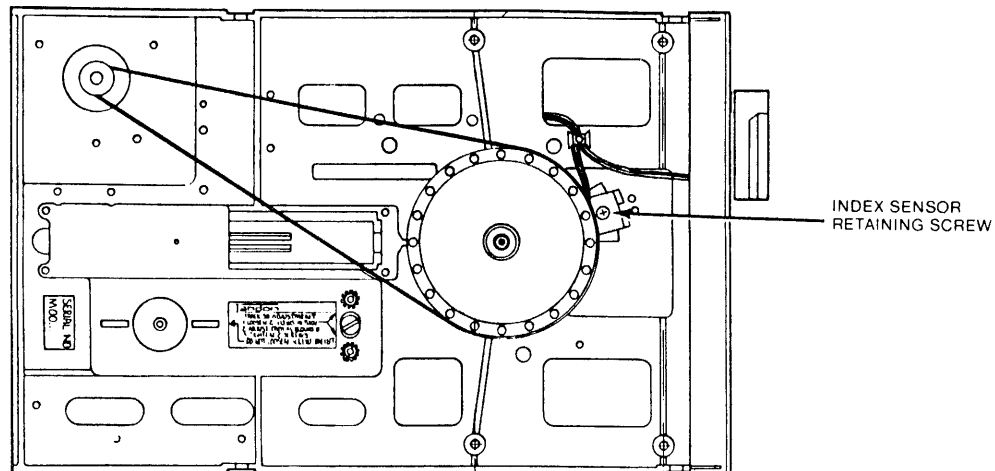

Figure 4-6. Index Sensor's Retaining Screw and Adjustment
1. Loosen the index sensor's retaining screw located on the underside of the chassis (see figure 4-6).